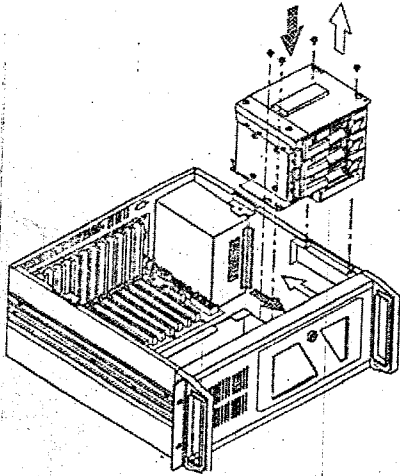

Figure 2.4-2: Inserting/removing the drive bay
1. Remove the four outer screws which mount the shock-resistant drive-bay to the chassis. (See Figure 2.4-2)